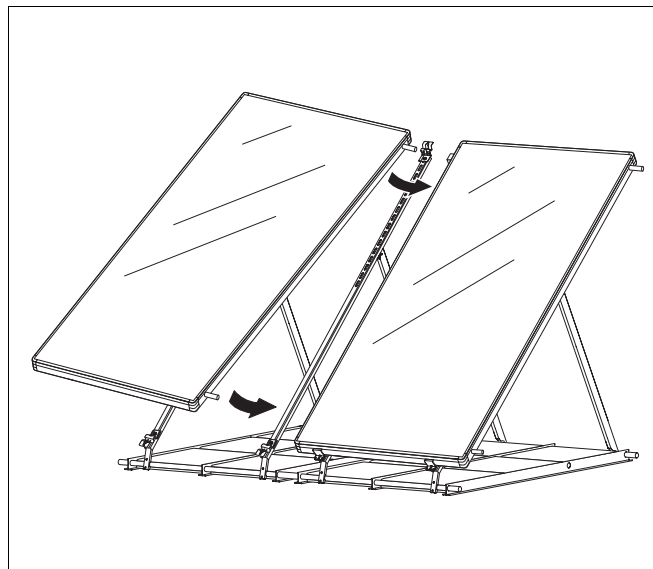

Fig. 36 Inserting the second collector and tightening the hose clip
- ▶ Whilst inserting the next collector, push the pre-assembled solar hoses onto the connections of the previously installed collector (Fig. 36).